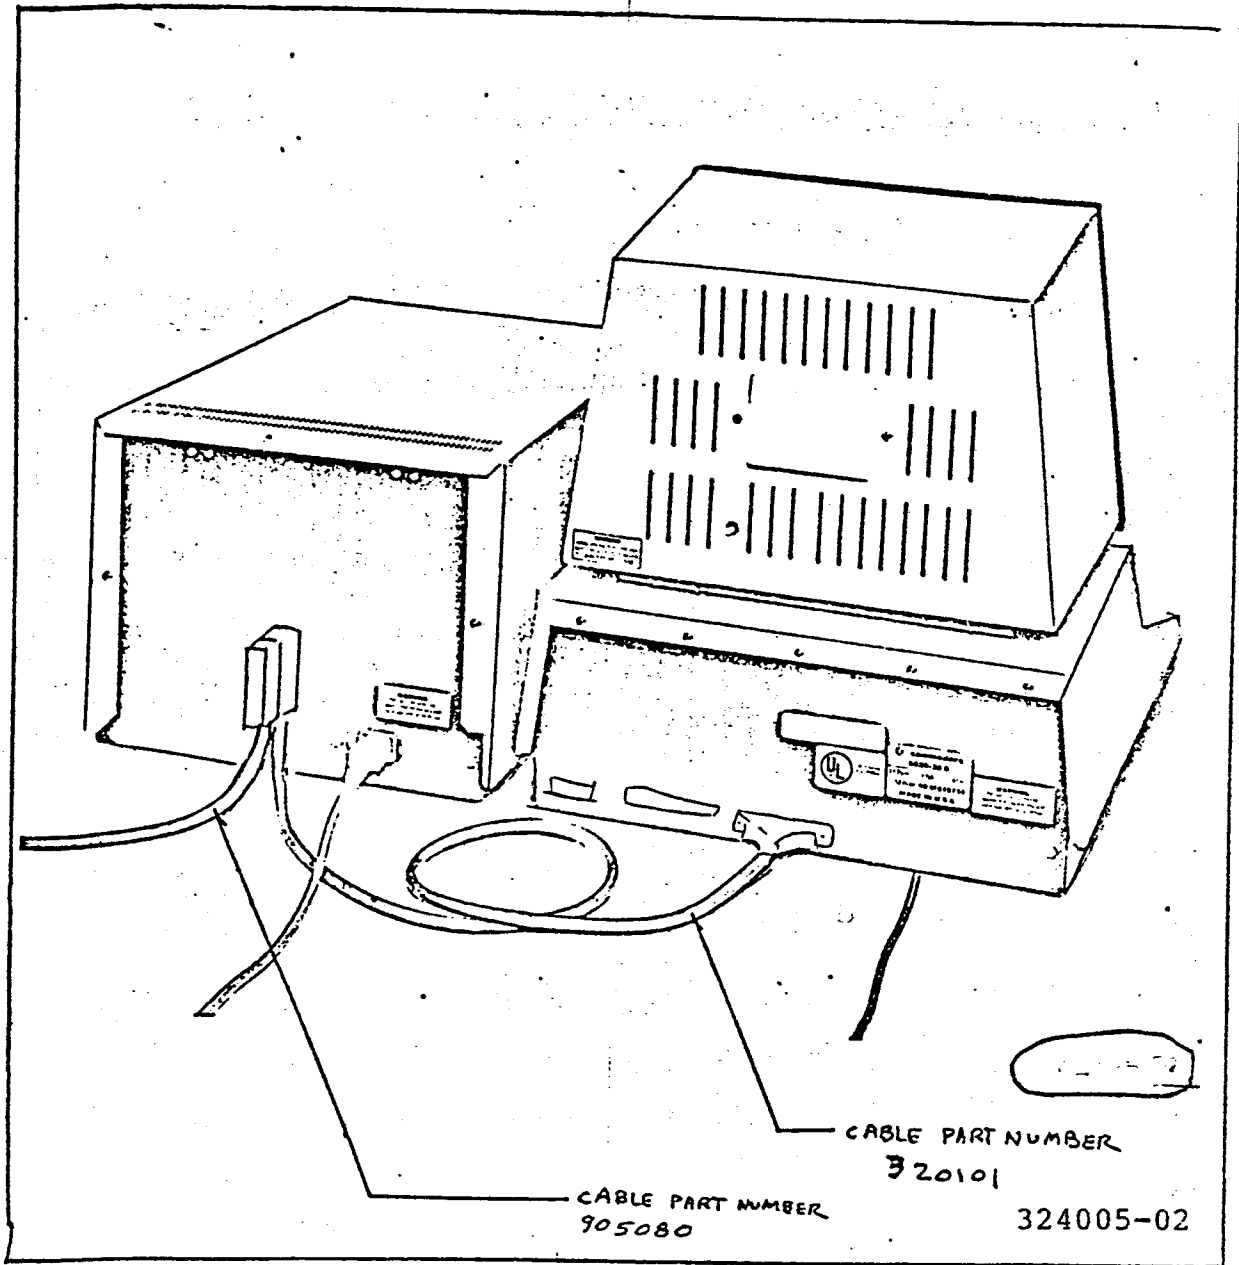

Figure 2-1. System Interconnection Diagram.
The only manual control for the 8061/8062 drive is the power on and off switch located on the back panel of the unit. See Figure 2-1. Power is applied to the drive when the white dot on the power on/off switch shows.
2. Place the 8061/8062 in a convenient location close to the computer. See Figure 2-1.